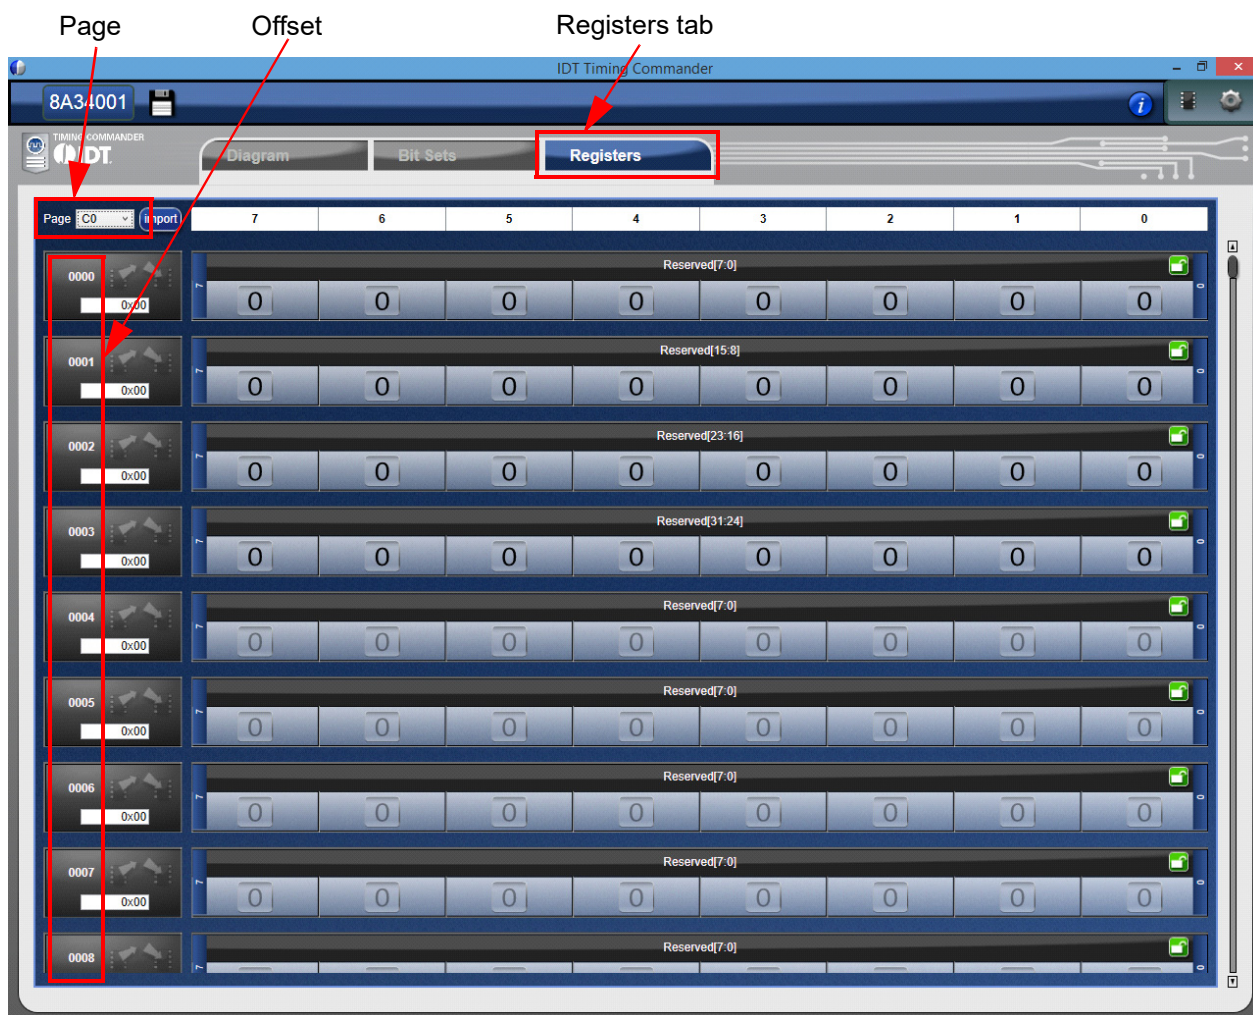

Figure 26. Registers Tab Window
- The Registers tab can be used to find a particular register by page and offset (see Figure 26)